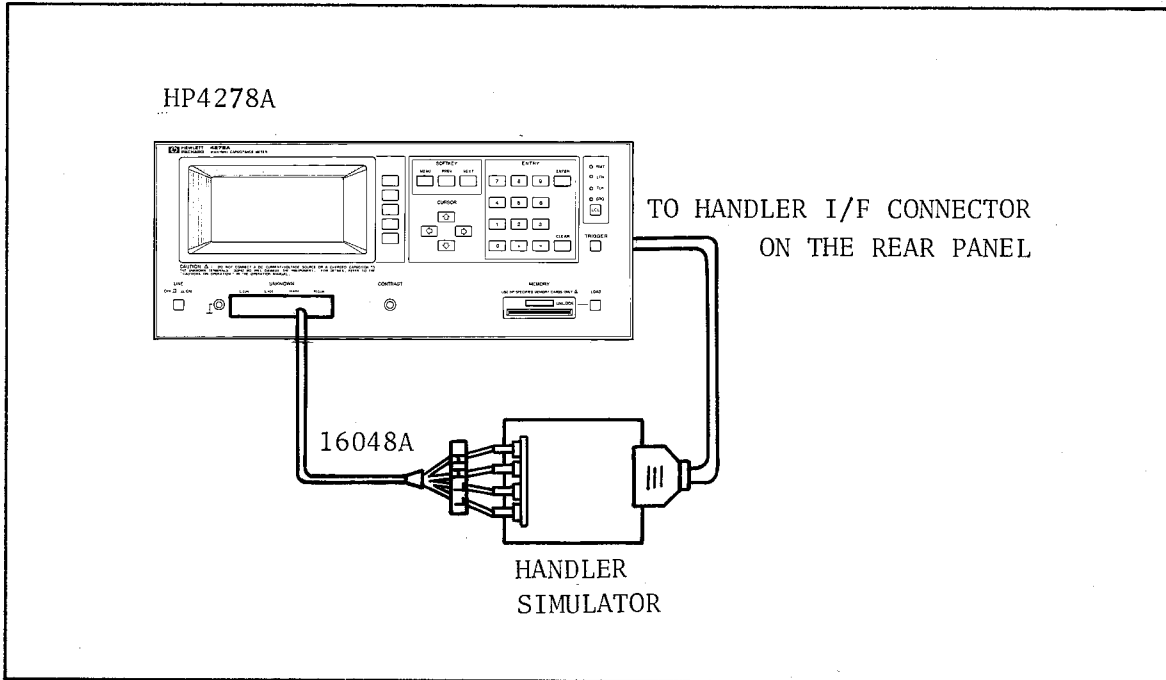

Figure 3. Handler Simulator Connection
3. Connect the handler simulator to the 4278A as shown in Figure 3.